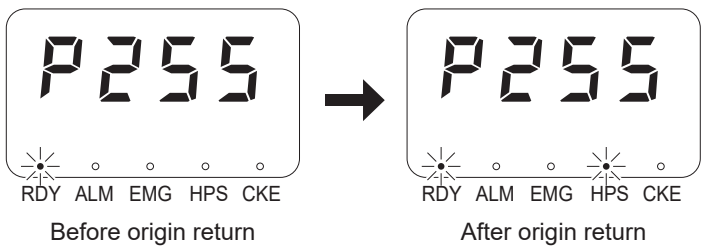

Fig. 7-2
- ① Click “Connect” and connect to the table-top type robot (IAI-made TTA-A4 series).
- ② Click “ORG ret”. After completion of origin return, the panel window display of the table-top type robot (IAI-made TTA-A4 series) is changed as shown in Fig. 7-2.